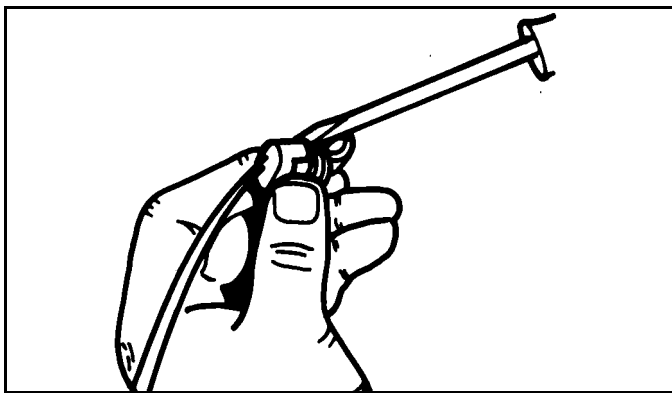

Figure 3-6
2. Remove retainer on wire end of connector with a screwdriver. (See Figure 3-6)